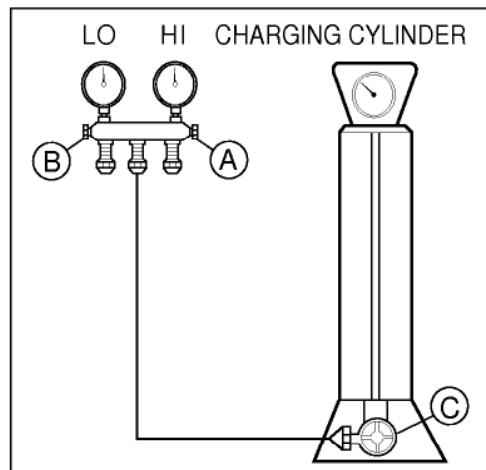

Figure 21B-Charging
- 6-2. Start the vacuum pump. Slowly open manifold valves A and B with two full turns counter-clockwise and leave the valves closed. The vacuum pump is now pulling through valves A and B up to valve C (figure 21B) by means of manifold and the entire system.
- 6-4. Remove the hose from the vacuum pump and place it on the charging cylinder. See figure 21B. Open valve C. Discharge the line at the manifold connection.
- 7-2. Connect the charging cylinder as shown in figure 21B. With valve C open, discharge the hose at the manifold connection.